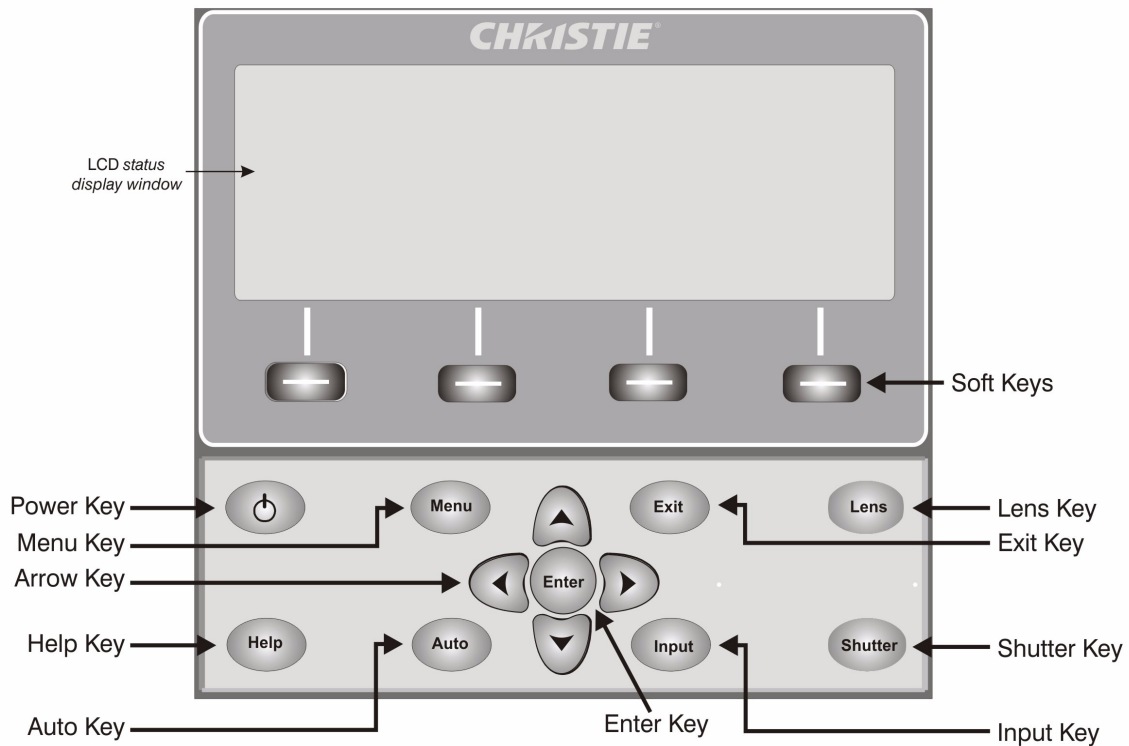

FIGURE 3-2 - BUILT-IN KEYPAD
- **Built-in Keypad** located at the side of the projector, see Figure 3-2 - Built-In Keypad.